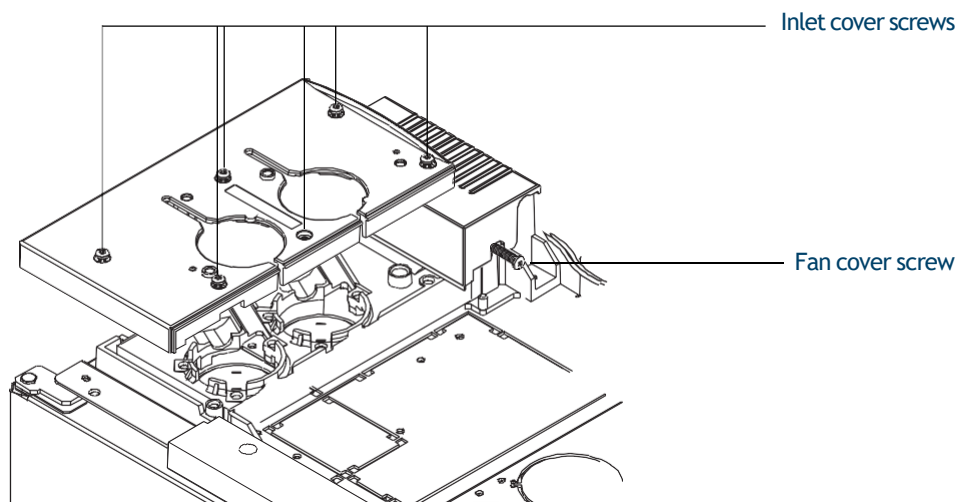

Figure 2. Removing the injection port top cover and inlet fan cover (6890 Series GC)
- 1 Loosen the Torx T-20 screw on the right side of the fan cover. See Figure 2 on page 39 for screw location.
- 1 Fully loosen the six Torx T-20 screws on the top of the cover (Figure 2).